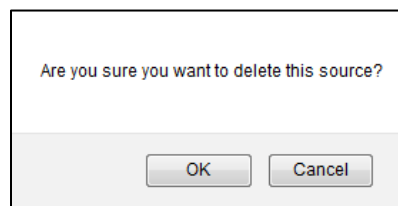

Figure 27. Click *OK* to delete the selected source, or *Cancel* to not delete the source.
- Click the *Delete source* icon at the right end of each segment. C-PORT displays the dialog box shown in Figure 27 for you to confirm the deletion of each roadway segment. Deleted road segments are still on your map, but are shown in white to indicate that they will not be included when you run the model.